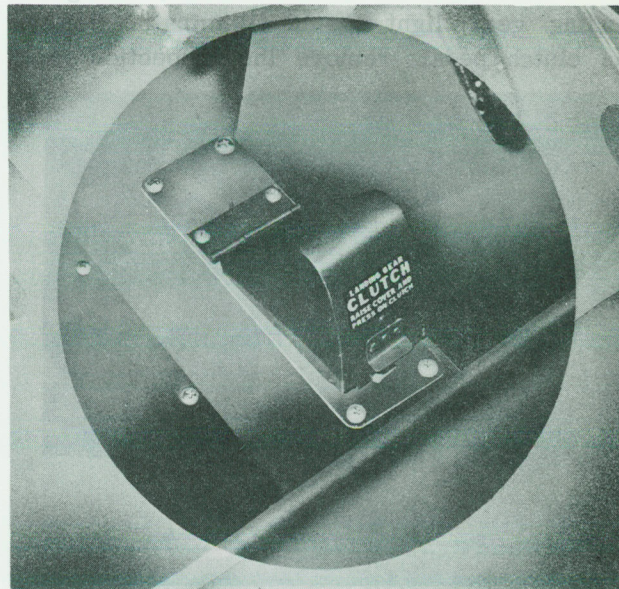

Figure 3-1-2 Landing-Gear
- (e) Raise landing gear clutch-pedal cover and depress clutch (see Figure 3-1-2). The gear will drop to a trailing position.